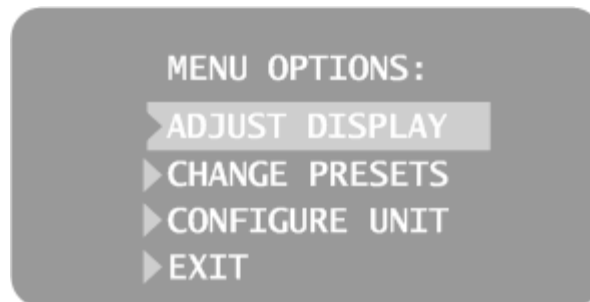
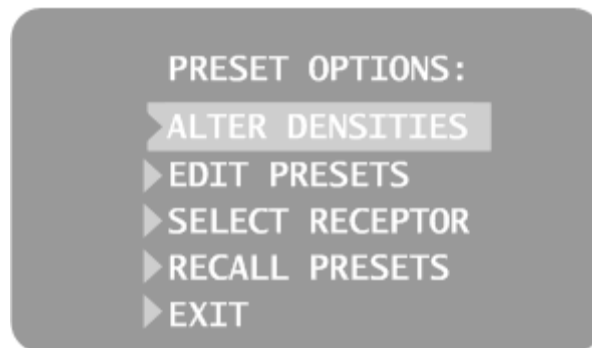
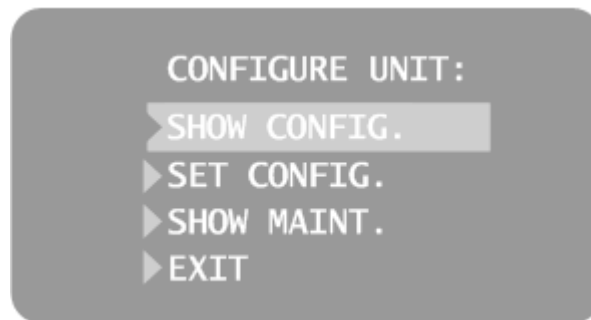
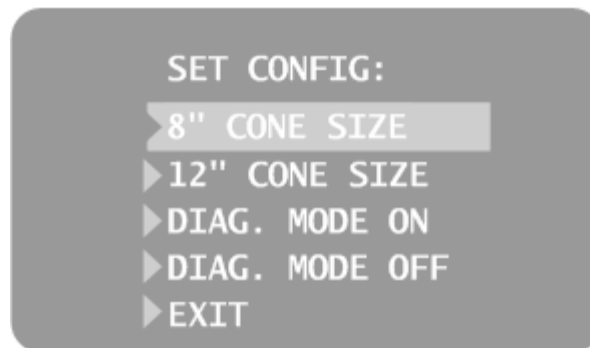

Figure 3
Figure 5
Figure 6
Figure 7
1. To enter system configuration mode, depress the Tooth Selection and Patient Size Selection buttons on the Operator Panel simultaneously for 5 seconds. The display shows the Main System Configuration menu, as shown in Figure 3, and the Ready Indicator blinks.
1. From the system configuration main menu, shown in Figure 3, select ADJUST DISPLAY. You will see the Display Options menu shown in Figure 4.
2. Selecting EXIT returns the display to the Main System Configuration menu shown in Figure 3.
1. From the Main System Configuration menu, shown in Figure 3, select CHANGE PRESETS. You will see the Preset Options menu shown in Figure 5.
4. Select SELECT RECEPTOR from the Preset Options menu (Figure 5).
1. From the Main System Configuration menu, shown in Figure 3, select CONFIGURE UNIT. You will see the Configuration menu shown in Figure 6.
Selecting SET CONFIG. from the Configuration menu, shown in Figure 6, displays the Set Configuration menu, Figure 7, with options to change the cone size. The Preva Dental X-Ray System is factory set for use with the standard supplied 8 inch (20 cm) Cone. The 12 inch (30 cm) Cone (30-A2200) is available. Using the longer Cone requires longer exposure times, which the Preva automatically selects when you change the Cone size in the Set Configuration menu.
2. Select SET CONFIG. You will see the Set Configuration menu, shown in Figure 7.